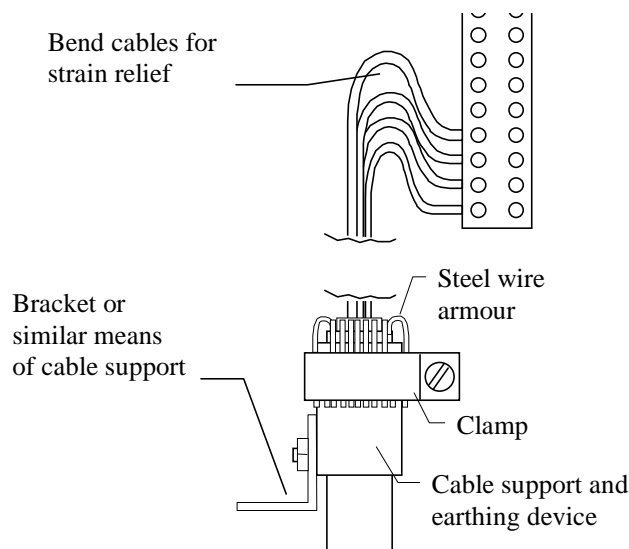

Figure 31 - Termination of feeder cables
- The feeder/tail conductors should be connected to the terminal blocks. Figure 31 shows a typical installation, showing the feeder connected with strain relief. Figure 13 on page 21 shows armoured cable clamping in an ST800 MEC.